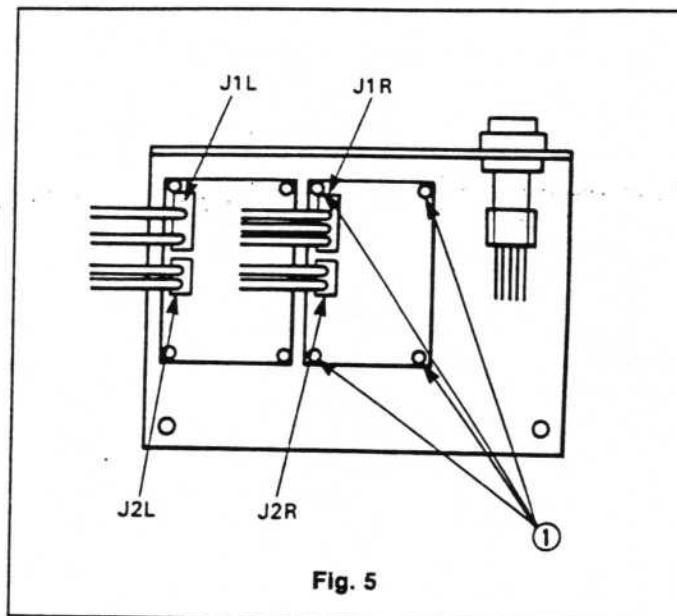

Fig. 5
- (1) Remove the box cover (see 1-(1) Switch replacement).
- (2) Remove the board connectors J1L, J1R, J2L, J2R (see Fig. 5).
- (3) Remove the screws (①, x 4) holding the board and replace the board.
- (4) Tighten screws ① and insert connectors according to their numbers.
- (5) Attach the box cover to the control box.